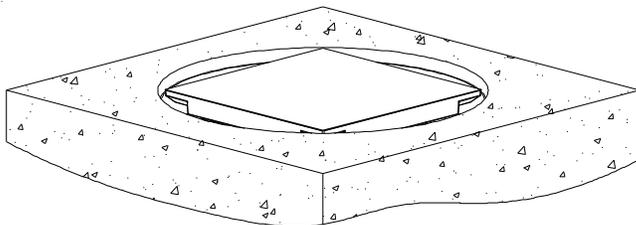

Fig. 11S
- 11. Turn head assembly clockwise until top of strainer is flush with the finish floor. See Fig. 11S